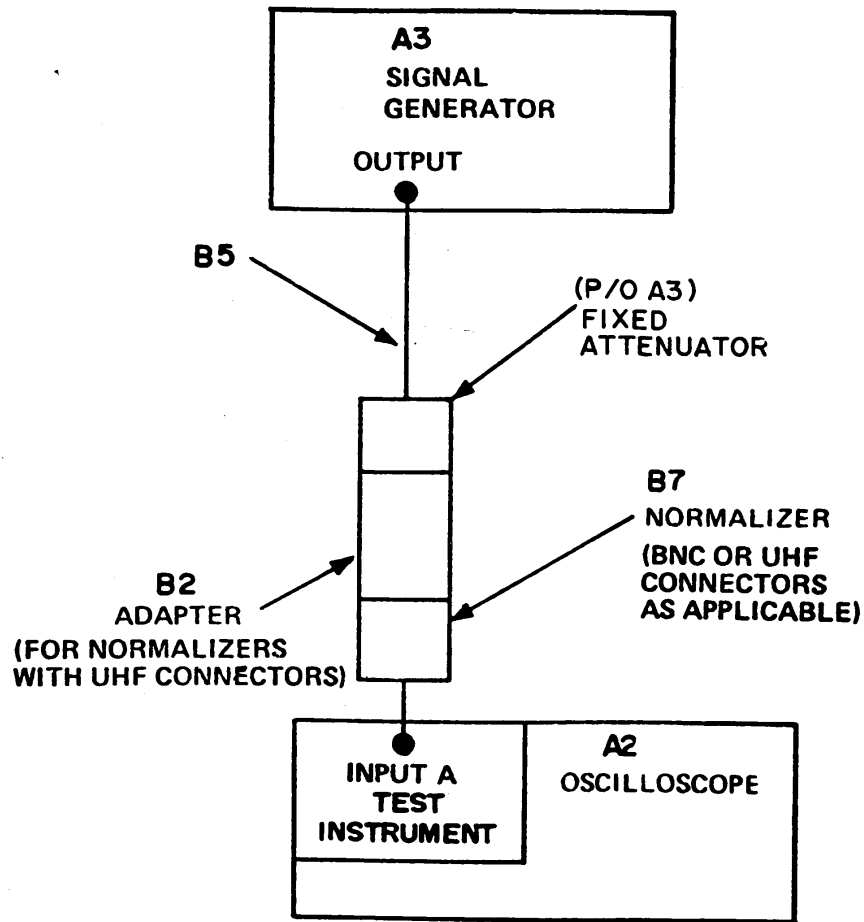

Figure 3. Input capacitance setup.
- (1) Connect equipment as shown in figure 3.
- (2) Set TI **VOLTS/CM** switch to **.05**.
- (3) Adjust signal generator (A3) controls for 1 kHz and oscilloscope (A2) display of 4-centimeter peak-to-peak square wave.
- (1) Set oscilloscope (A2) **TIME/CM** switch to **5 msec**.
- (2) Position TI controls as listed in (a) and (b) below:
- (3) Connect equipment as shown in figure 3 without the normalizer (B7).
- (4) Adjust signal generator (A3) controls for 50 Hz and oscilloscope display of 4 centimeters peak-to-peak. Oscilloscope will display square wave with flat top. If not, perform **b** below.